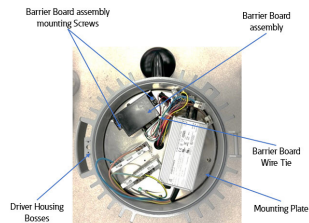

FIGURE 6
3. Release the barrier board wires by carefully cutting barrier board cable tie, taking care not to damage wire insulation. (See Figure 6)